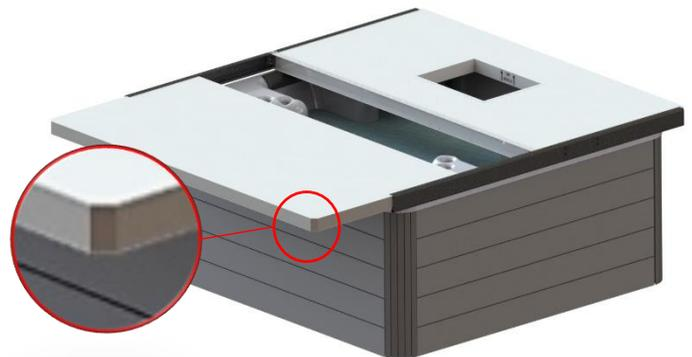

Figure 51
- 8) Slide the remaining panel into the C channels and press it slightly against the I-beam. (Figure 51)